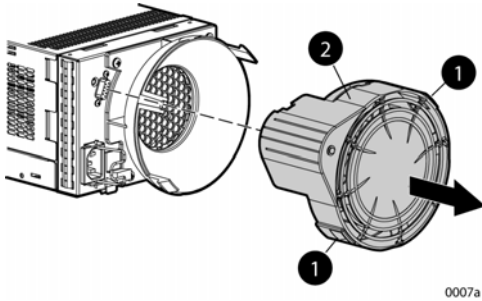

Figure 51 Removing a blower
- While pushing in on the two wine-colored mounting tabs (1, Figure 51), pull the blower (2) away from the power supply.